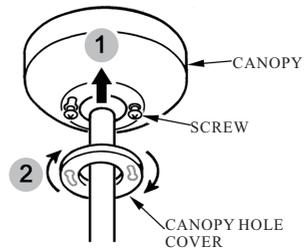

FIG. 10
5. Place the canopy hole cover over the screws and twist the cover to tighten. (see Fig. 10)